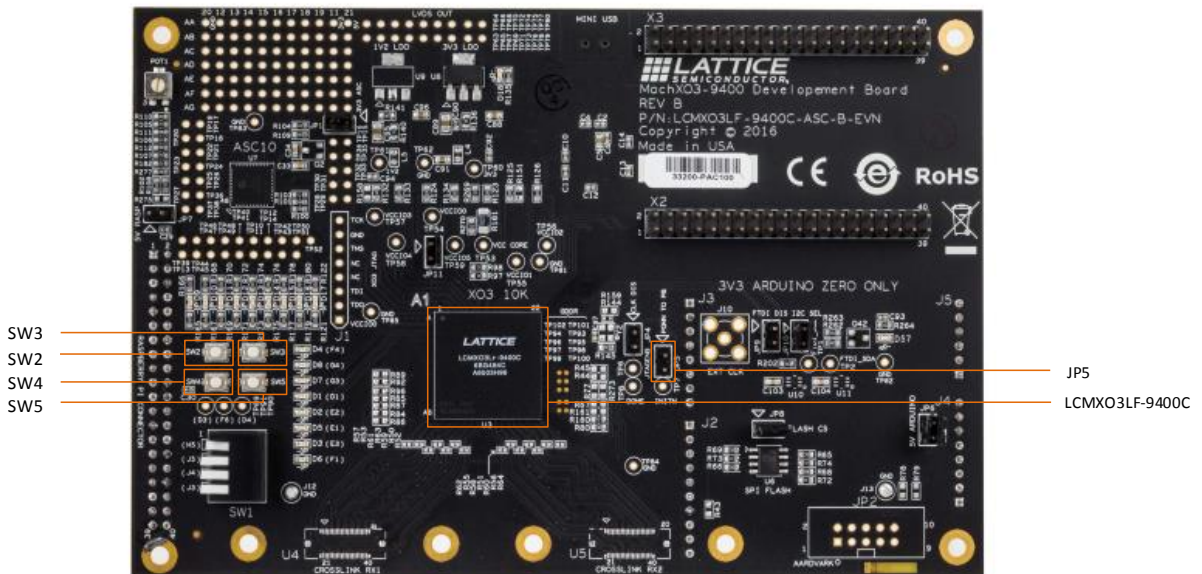

Figure 6.15. Auto Background Reconfiguration
- Set JP5 as shown in Figure 6.15.